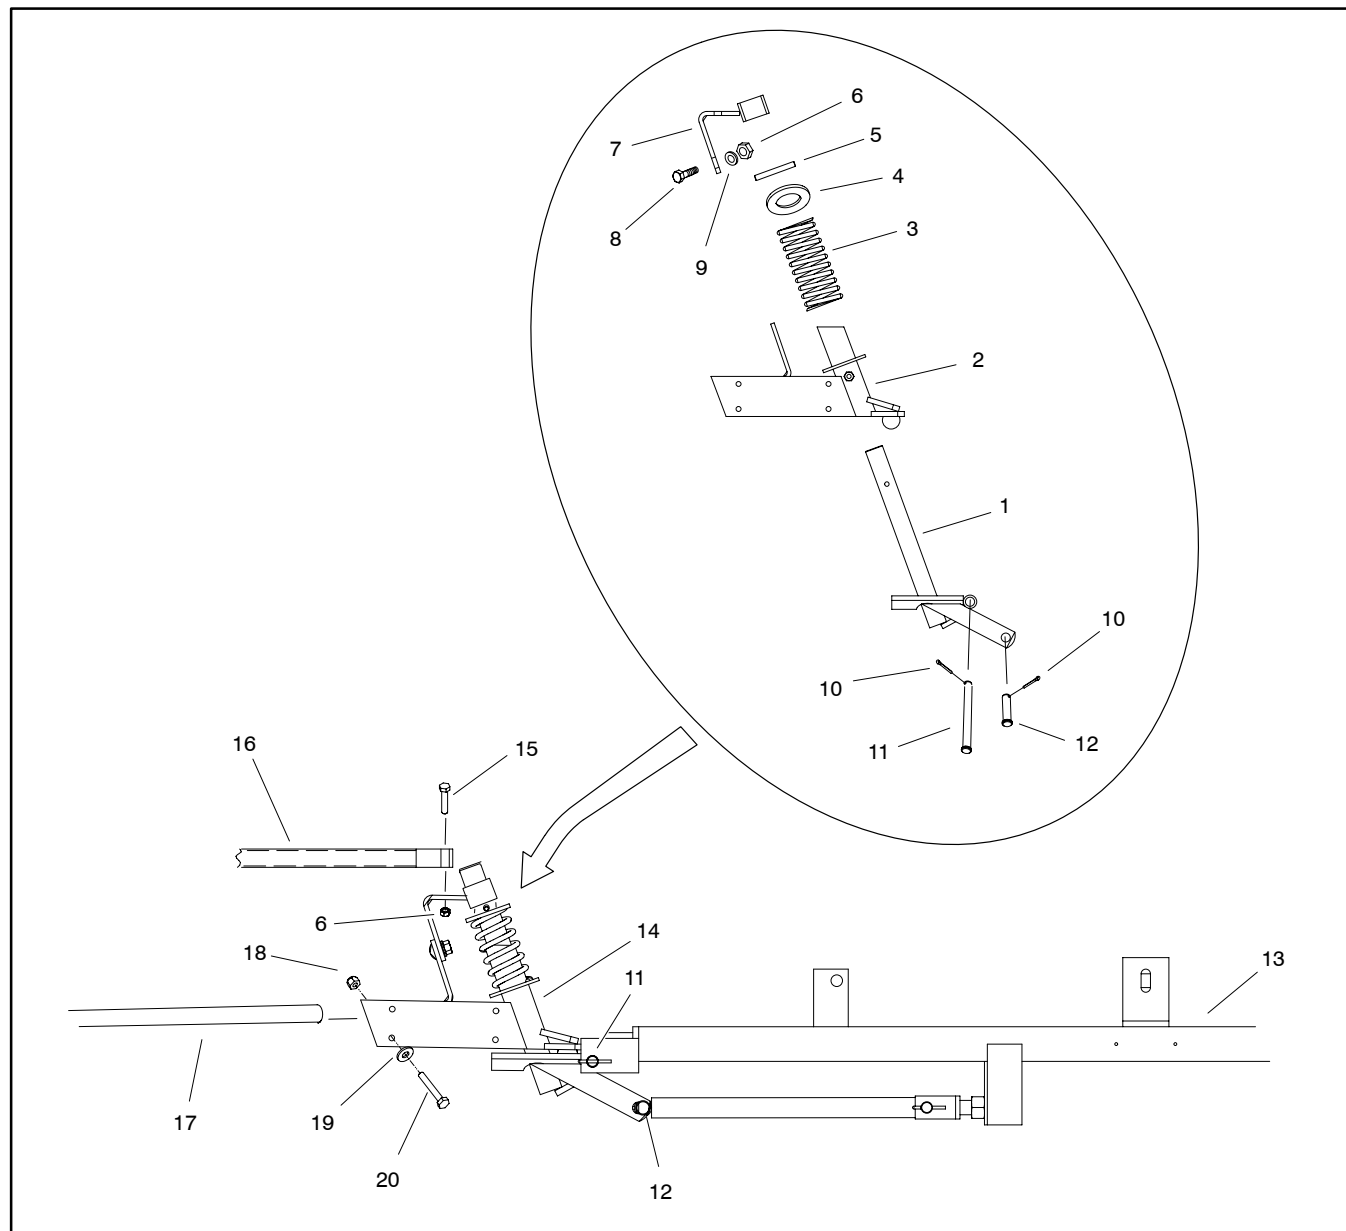

Figure 55
Disassembly (Fig. 55)
5. Complete disassembly as required using Figures 55 and 56 as guides.
Assembly (Fig. 55)
1. Assemble breakaway pivot using Figures 55 and 56 as guides.